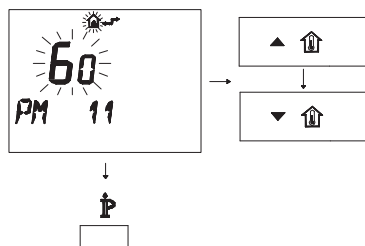

Fig. 7.34
- To modify the programmed SET, act on buttons ▲⏏ or ▼⏏ and wait for the programmed number to flash (Fig. 7.34). Each step increased or decreased corresponds to 1 second.